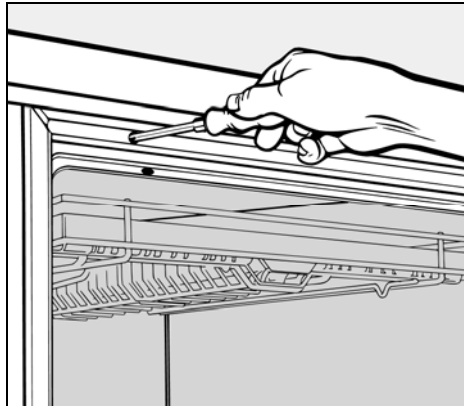

Figure 5-17: Door Tension Adjustment Screw
2. Locate the spring adjustment screw on the left side of the dishwasher at the top front edge as shown in Figure 5-17.